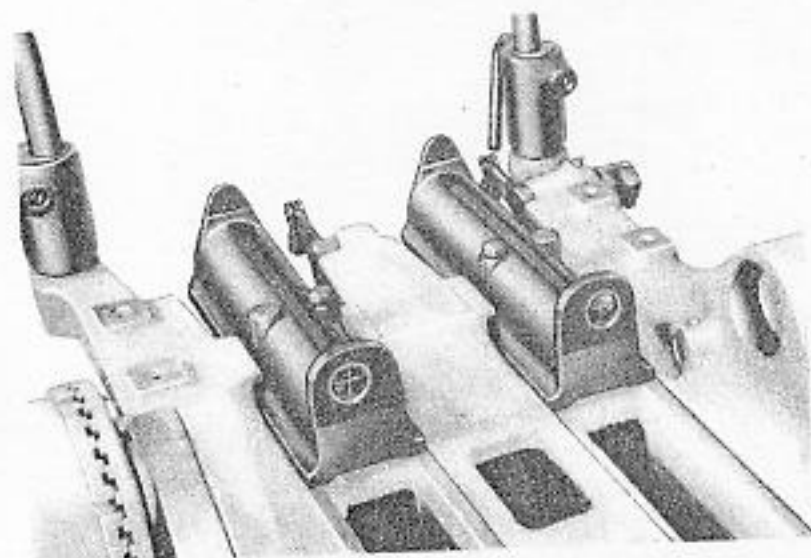

Figure 24. Cam Generating Sights in Cradle.
5. **Cam Generating Sights.** Place the cam generating sight assemblies (454152—R.H. and 454153—L.H.), located in the cam generating sight box (482550), in the respective gun slots in the cradle and secure them by inserting the attaching screws (482560) in the tapped holes provided in the cradle. The screws are also located in the sight box. If the sights are accidentally placed in the wrong gun slots in the cradle, they will fit the slots but cannot be secured, because the tapped holes are offset and are in alignment only when the sights are correctly located. Do not tighten the screws with more than light wrench pressure. See Fig. 24.